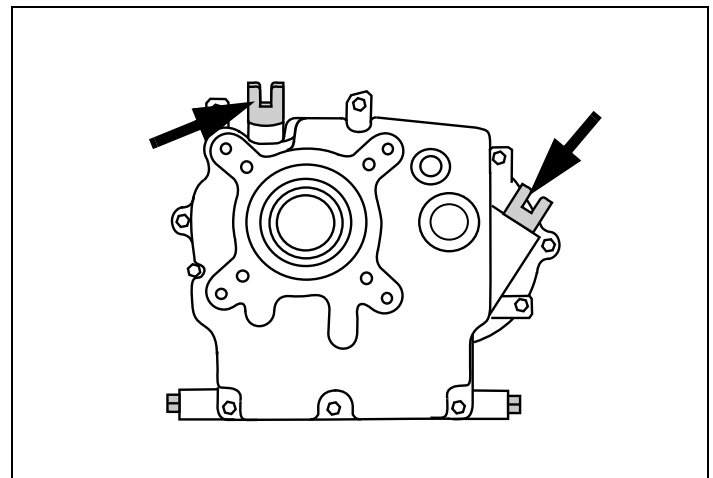

Figure 9. Oil Fill Locations
2. Clean area around oil fill cap/plug. See Figure 9.